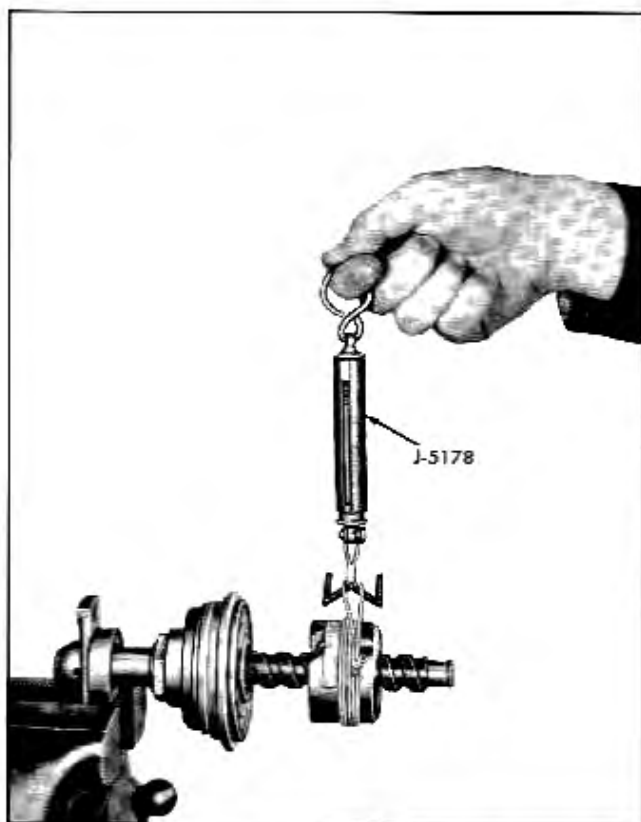

Fig. 9-56 Measuring Preload of Ball Nut Using Spring Scale J-5178
5. The steering worm groove is ground to provide a "high point" through center. To measure preload, install steering worm flange on worm and clamp in a vise. Fasten a cord to ball nut and wind it around two or three times. Using spring scale J-5178 (Fig. 9-56) pull slowly, unwinding cord and rotating ball nut over "high point". Reading after nut has started to rotate should be between 2 and 6 lbs. If preload is below 2 lbs., install set of next larger balls and recheck (See table). If preload is over 6 lbs., install next smaller size balls and recheck. Original assembly (Except ball code No. 7) is marked on outer diameter of ball nut. Due to wear or use of new parts, it is sometimes necessary to use a size different than indicated.